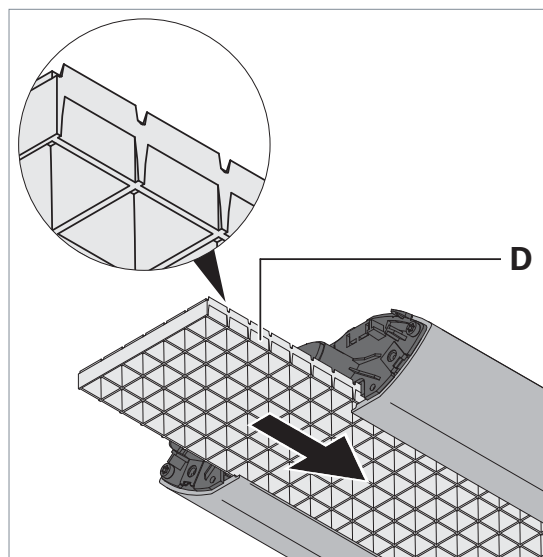

Fig. 19: Sliding in the parabolic grid.
- ▶ If the luminaire is equipped with a parabolic grid **D**: Slide the parabolic grid again into the luminaire such that the thin ligaments of the grid point into the direction of the light exit, see Fig. 19.